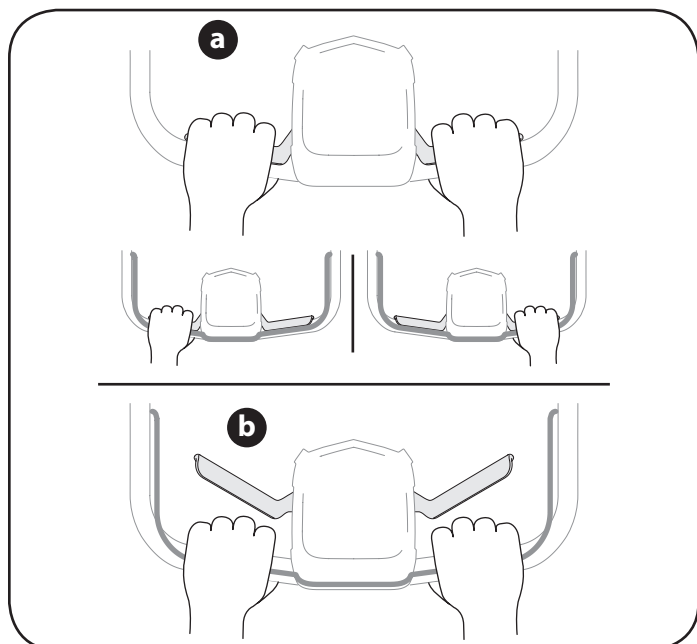

Figure 17
3. Using Mower as Four wheel drive. See Figure 17: